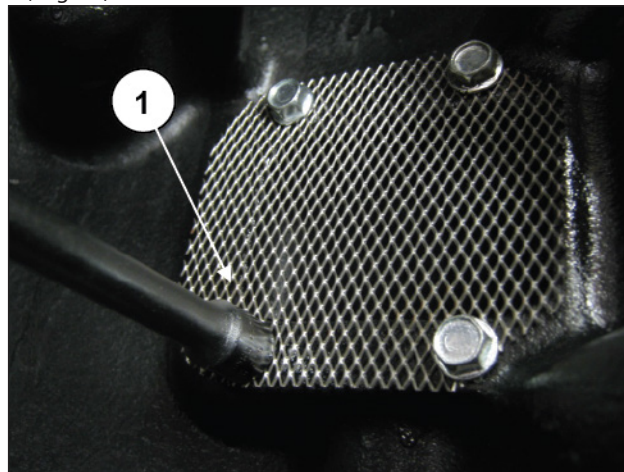

Fig. 50
Remove the four filter mesh fixing screws to access the lube pump suction cavity and check that the interior is clean (pos. ①, Fig. 50).